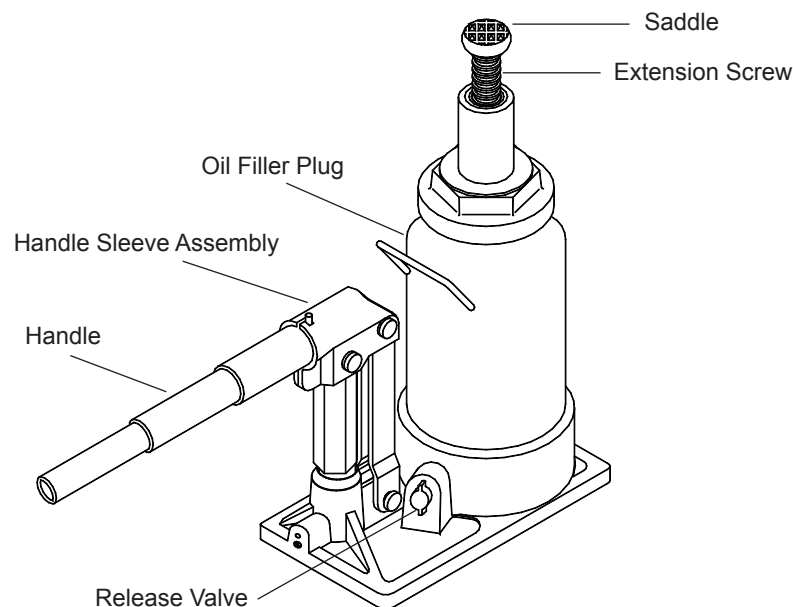

Figure 1 - Typical In-Line Bottle Jack Nomenclature
1. Verify that the product and application are compatible, if in doubt call Omega Technical Service (888) 332-64192. Before using this product, read the operator's manual completely and familiarize yourself thoroughly with the product, its components and recognize the hazards associated with its use.
5. With ram plunger fully retracted and jack in its upright, level position (Fig 1), locate and remove the oil filler plug/screw. Insert the handle into the handle sleeve, then pump 6 to 8 strokes. Ensure the oil level is just below the oil filler hole. Reinstall the oil filler plug/screw.